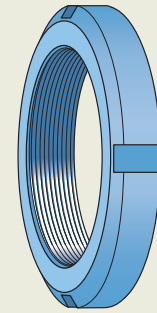

Fig. 2
- have four equally-spaced slots located around their circumference to accommodate a hook or impact spanner (fig. 2)
- have four, equally spaced slots around their circumference to accommodate a hook or impact spanner (fig. 2)